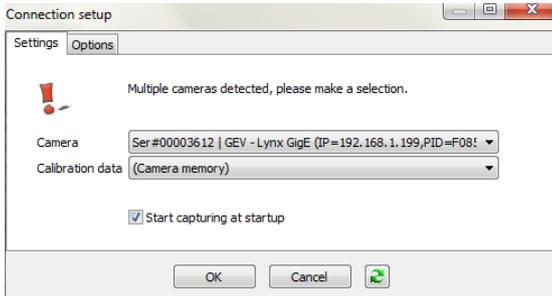

Figure 3.6 Reconnect to camera with onboard correction
- o Reconnect to the camera. While reconnecting, choose 'camera memory' calibration data (see Figure 3.6).